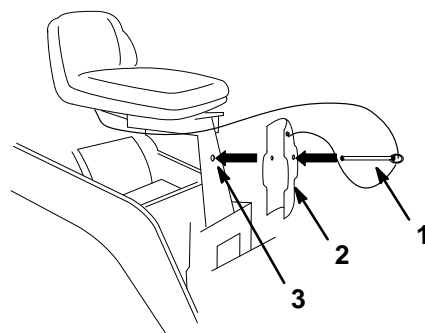

Figure 22
6. Secure the clamp under the backhoe seat by inserting the end of the pin in the clamp into the hole in the seat support (Fig. 22).